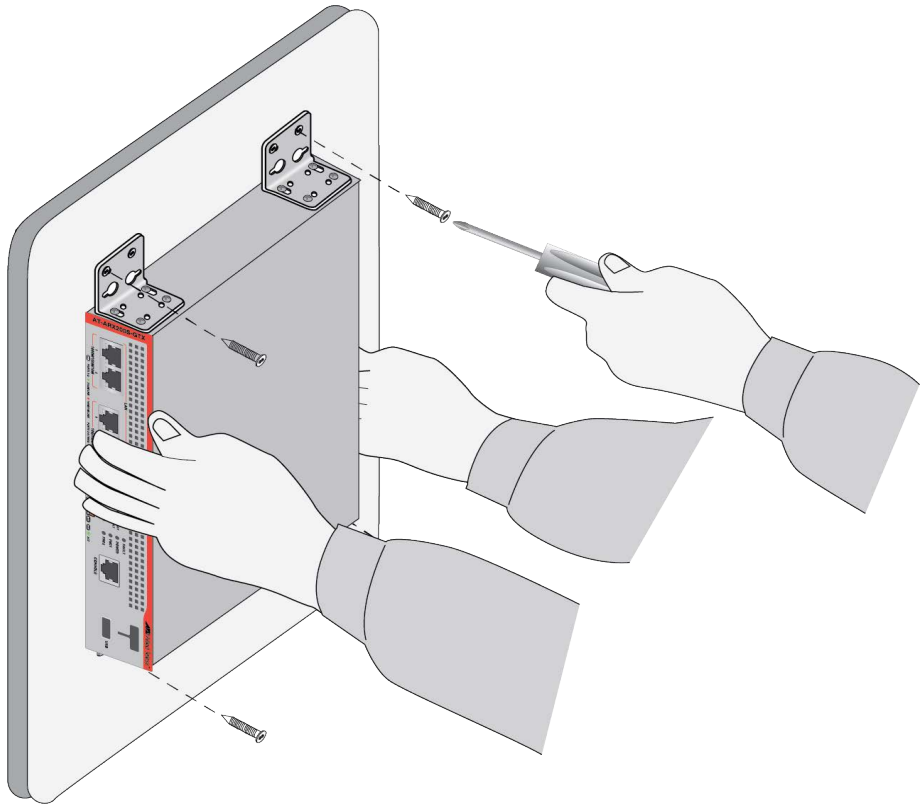

Figure 51. Securing the ARX200S-GTX Router on a Concrete Wall
9. Have another person hold the router at the selected location while you secure it to the wall with four screws. (Wall screws not supplied.) Refer to Figure 51.